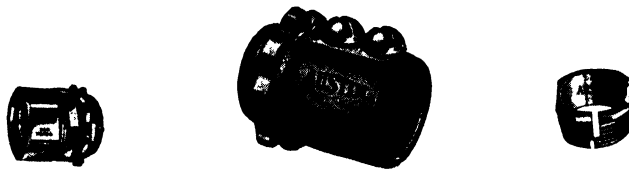

Fig. 24. Water-Tight and Set Screw Type Connector and Adapter
**Connectors.** These consist of a body which is similar to a coupling at one end, to take the thin-wall tubing, and a short male-threaded extension on the other end, Fig. 24, for insertion into an outlet box. A locknut is then threaded on, clamping the side of the
**Adapters.** The adapter, Fig. 24, is used when it is necessary to secure thin-wall conduit to a conduit fitting having a threaded hub. Screwing the adapter, previously slipped onto the thin-wall tubing, into the threaded hub causes the adapter to grip the tube and hold it in place.